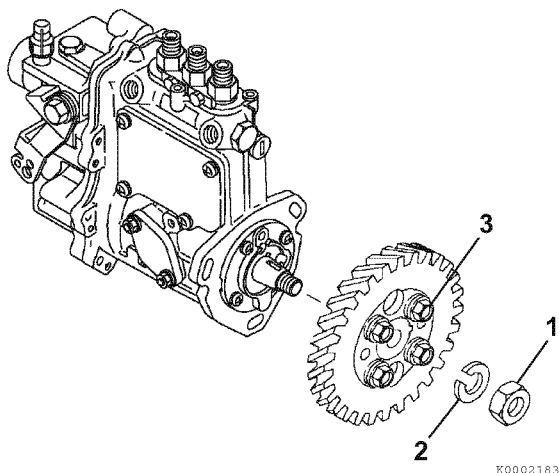

Figure 6-44
4. Do not remove the fuel injection pump drive gear unless absolutely necessary due to damage to the gear or pump. Do not loosen or remove the four bolts (**Figure 6-44, (3)**) retaining pump drive gear to the hub. Only remove the nut (**Figure 6-44, (1)**) and washer (**Figure 6-44, (2)**), leaving the hub attached to the gear. Remove the pump drive gear and hub as an assembly using a gear puller.